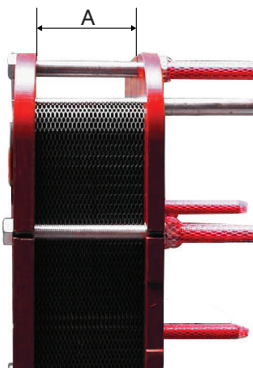

FIG 8.4
- Tightening is complete when the distance between the inside faces of both frame plates equals the **A** distance as shown on the contract drawing, see **FIG 8.4**.